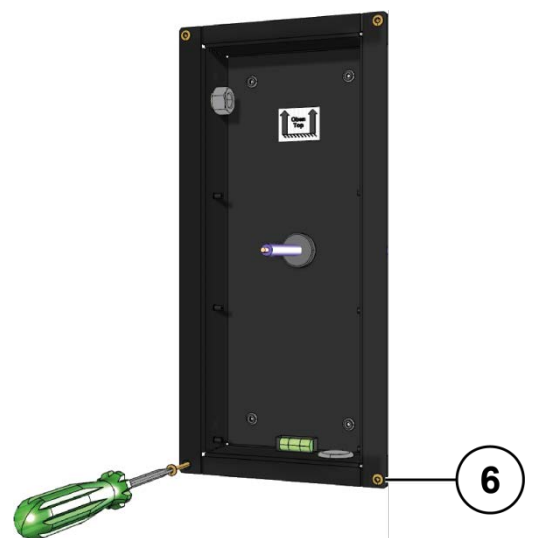

Fig. 4: Fixing the flush-mount box
- ▶ Fix the flush-mount box with 4 screws **(6)** to the wall (Fig. 4).